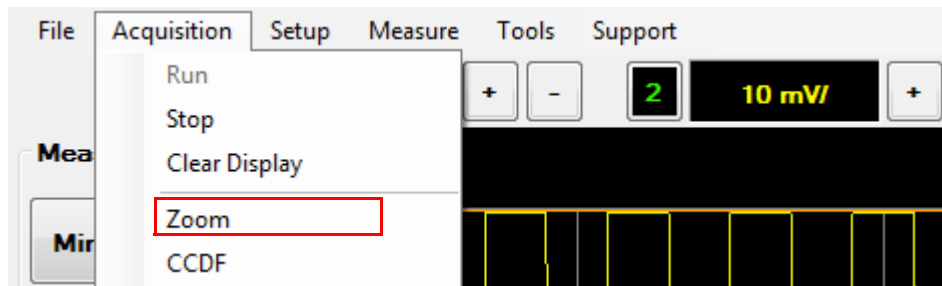

Figure 2-79 Zoom selection in the Acquisition menu
- 1 Select **Acquisition > Zoom** on the toolbar as shown in Figure 2-79.